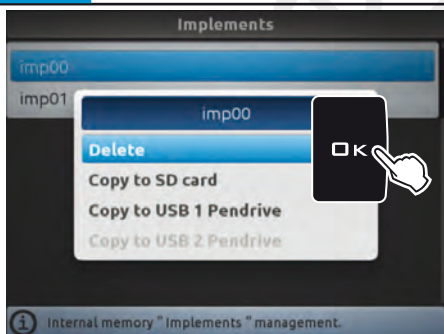

Fig. 274
- Select **Delete** (Fig. 274) and press **OK**.